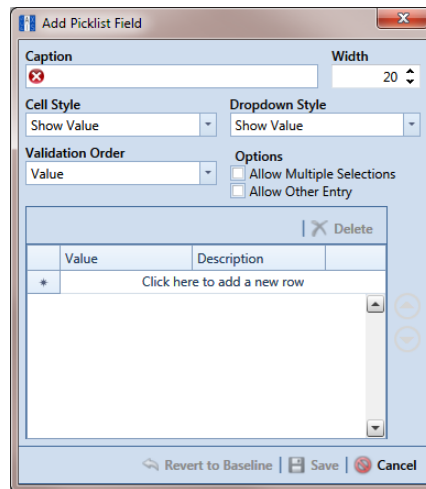

Figure 3-46. Add Picklist Field
- 6 When the dialog box *Add Picklist Field* opens, set properties for the parent picklist in the following manner (Figure 3-46):